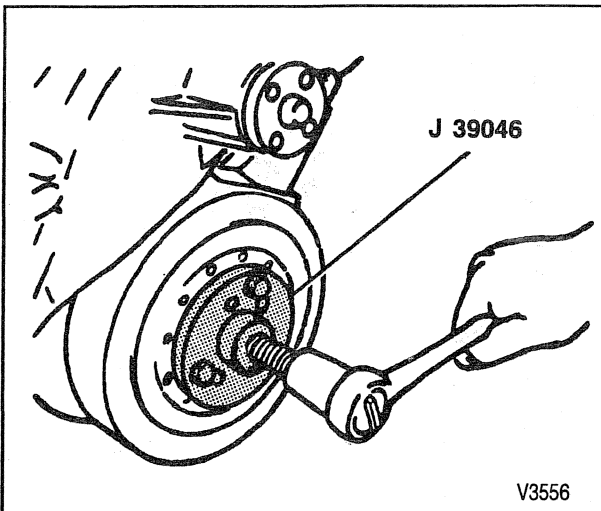

Figure 20—Removing the Torsional Damper
### Remove or Disconnect (Figures 20 and 21)
5. Torsional damper. Use tool J 39046 (figure 20).